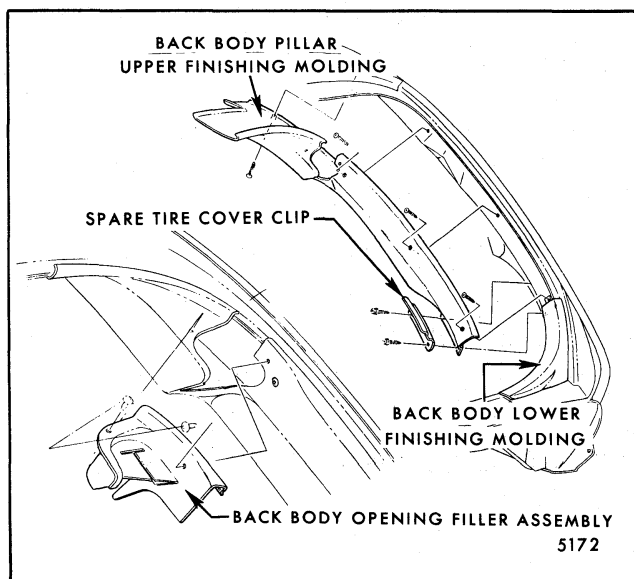

Fig. 7-98-Back Body Pillar Upper Finishing Molding - Right Side Shown
1. Remove back body opening filler assembly attaching screws and disengage filler assembly from back body pillar upper finishing molding (Fig. 7-98).
2. Remove screws securing back body pillar upper finishing molding and disengage pillar molding from back body pillar (Figs. 7-98 and 7-99).